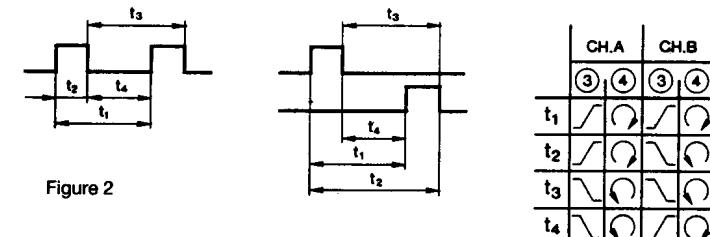

Figure 2
Combination of trigger-level controls ④ and slope keys ③ (See Figure 2) affords further measuring facilities.